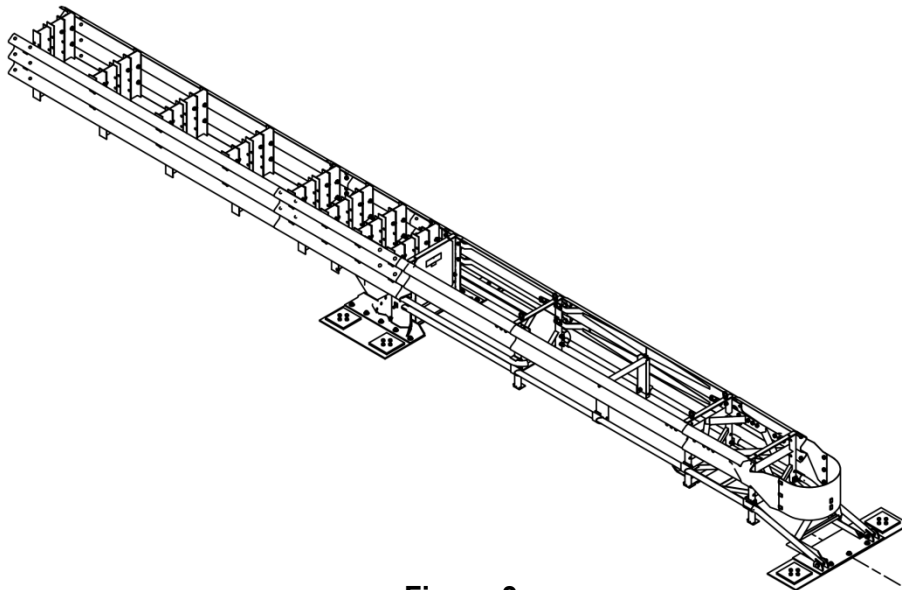

Figure 3
Note: The QUEST® System, when properly deployed, appears to be an extension of the object it is shielding (see Figure 3).
1. Lift the system into place at the marked location. If required, attach the system to the roadside feature via Transition Panel(s) (see Figure 3).